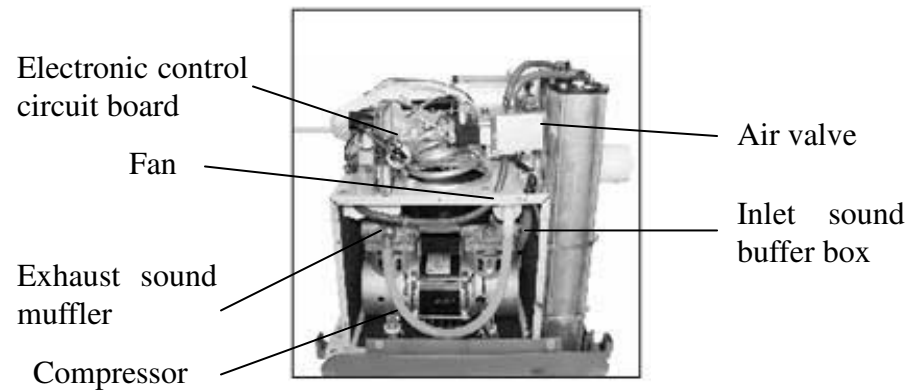
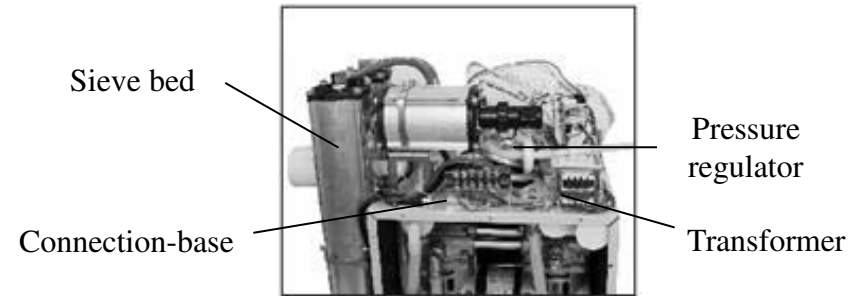

Figure 13
Figure 14
2.Unscrew the screws in both sides (9 screws each side) and take out it. (Figure 13, Figure 14)